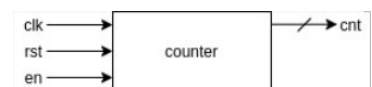

Figure 3: Counter block diagram
1. Implement a 4-bit counter in a new VHDL file, *counter.vhd*, following the port configuration in figure 3